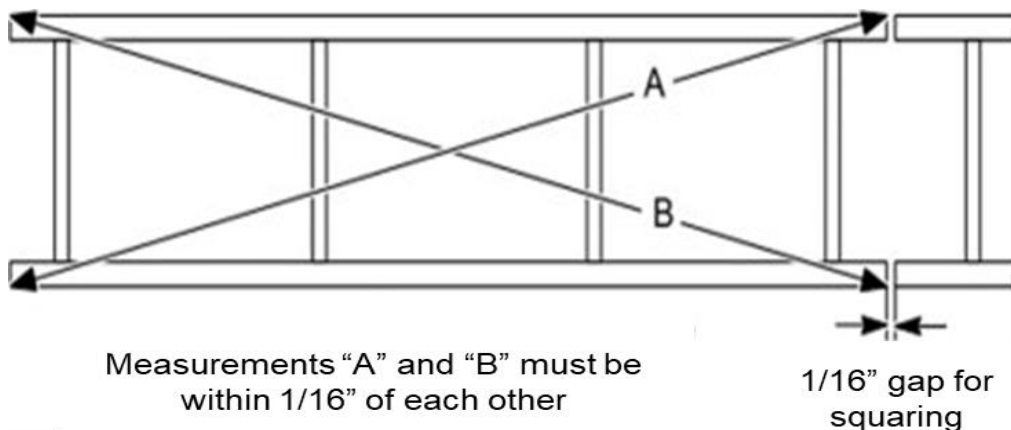

Figure 25: Squaring Conveyor
During shipment, sections may be knocked out of square. If these conditions are not corrected before the section is installed, operating problems may occur. Be sure to check each section before installing. (See Figure 25).
- 1) Measure each section diagonally from corner to corner as designated by Lines A and B in Figure 25. These measurements should be within 1/16" of each other.